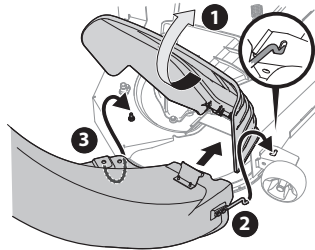

Figure 22
2. Raise the discharge chute (1 in Figure 22) on the deck and hold it while you position the bagger chute over the discharge chute opening.
3. Insert the bagger chute mounting rod (2) into the hole provided in the deck wheel mount as shown in the inset of Figure 22.
4. Pivot the bagger chute rearward until the hole in the bagger chute aligns with the pin on the deck. Move the bagger chute down onto that pin as shown in 3 of Figure 22.